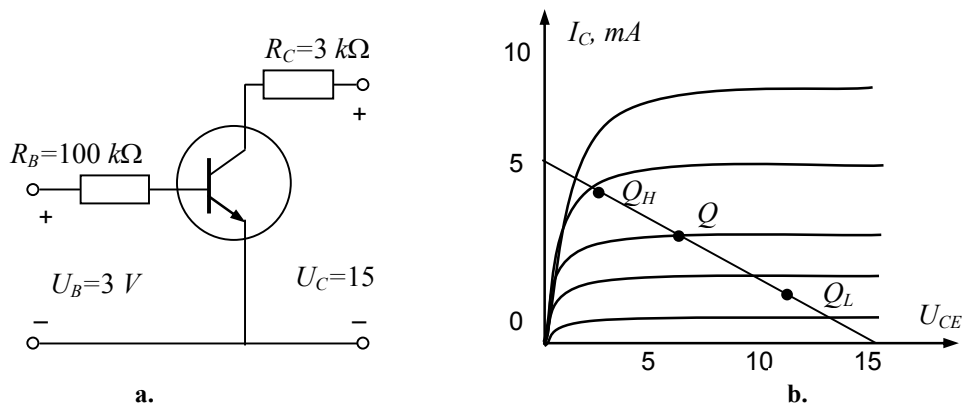

Fig. 1.26
**Example.** Fig. 1.26 is an example of a base-biased circuit. In the case of a short circuit across the collector-emitter terminals, the saturation current is  $15 \text{ V} / 3 \text{ k}\Omega = 5 \text{ mA}$ . In the case when collector-emitter terminals are open, the cutoff voltage is  $15 \text{ V}$ . The load line shows the saturation current and cutoff voltage. The base current is approximately equal  $I_B \approx 3 \text{ V} / 100 \text{ k}\Omega = 30 \mu\text{A}$ . Let the current gain of the transistor is  $\beta = 100$ . Then the collector current is  $I_C = \beta \cdot I_B = 100 \cdot 30 \mu\text{A} = 3 \text{ mA}$ . This current flowing through  $3 \text{ k}\Omega$  produces a voltage of  $9 \text{ V}$  across the collector resistor. Here, voltage across the transistor is calculated as follows:  $U_{CE} = U_C - U_{RC} = 15 - 9 = 6 \text{ V}$ . Plotting  $3 \text{ mA}$  and  $6 \text{ V}$  gives the operating point  $Q$  shown on the load line of Fig. 1.26. If the current gain varies from  $50$  to  $150$ , for example, the base current remains the same because the current gain has no effect on it. Plotting the new values gives the low point  $Q_L$  and the high point  $Q_H$  shown in Fig. 1.26.